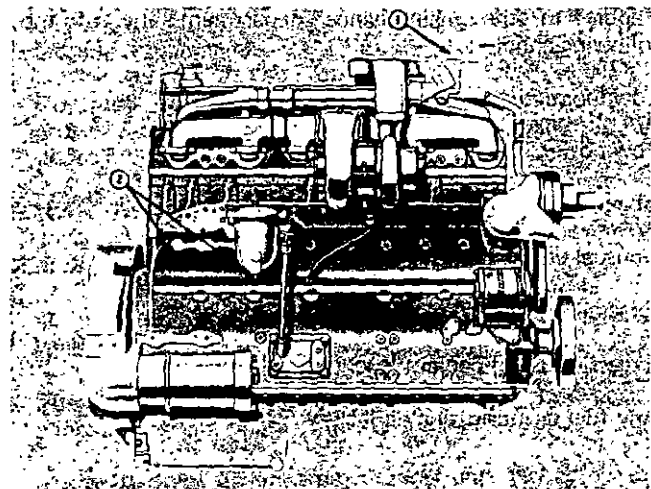
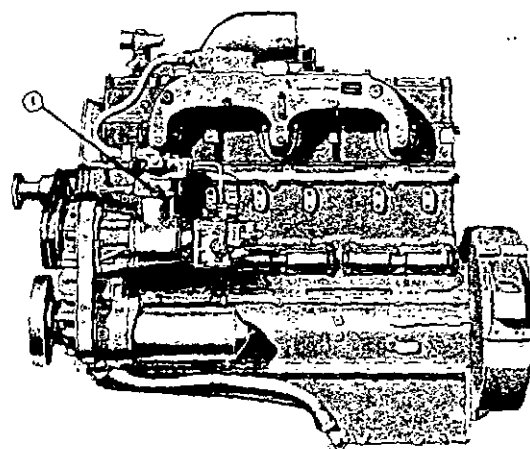

Fig. 2-8, N10001. Engine drain points
Fig. 2-9, N11827. Air compressor drain point
2. To completely drain cylinder block and head, open petcock or remove drain plug on manifold side of cylinder block at rear of engine. Fig. 2-8. If an air compressor or other "water-cooled" accessory is used, open petcock on unit. Fig 2-9.